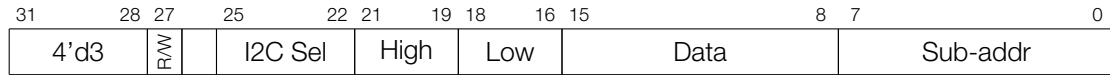

Figure 152: Instruction Type – I2C
**Operand**    **Description** - see Figure 152